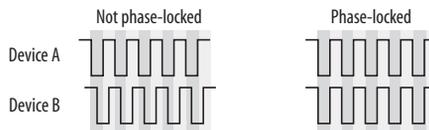

Figure 3-10: When transferring audio, two devices must have phase-locked audio clocks to prevent clicks, pops or other artifacts.
- Synchronizing the Traveler with other digital audio devices so that their digital audio clocks are *phase-locked* (as shown in Figure 3-10)